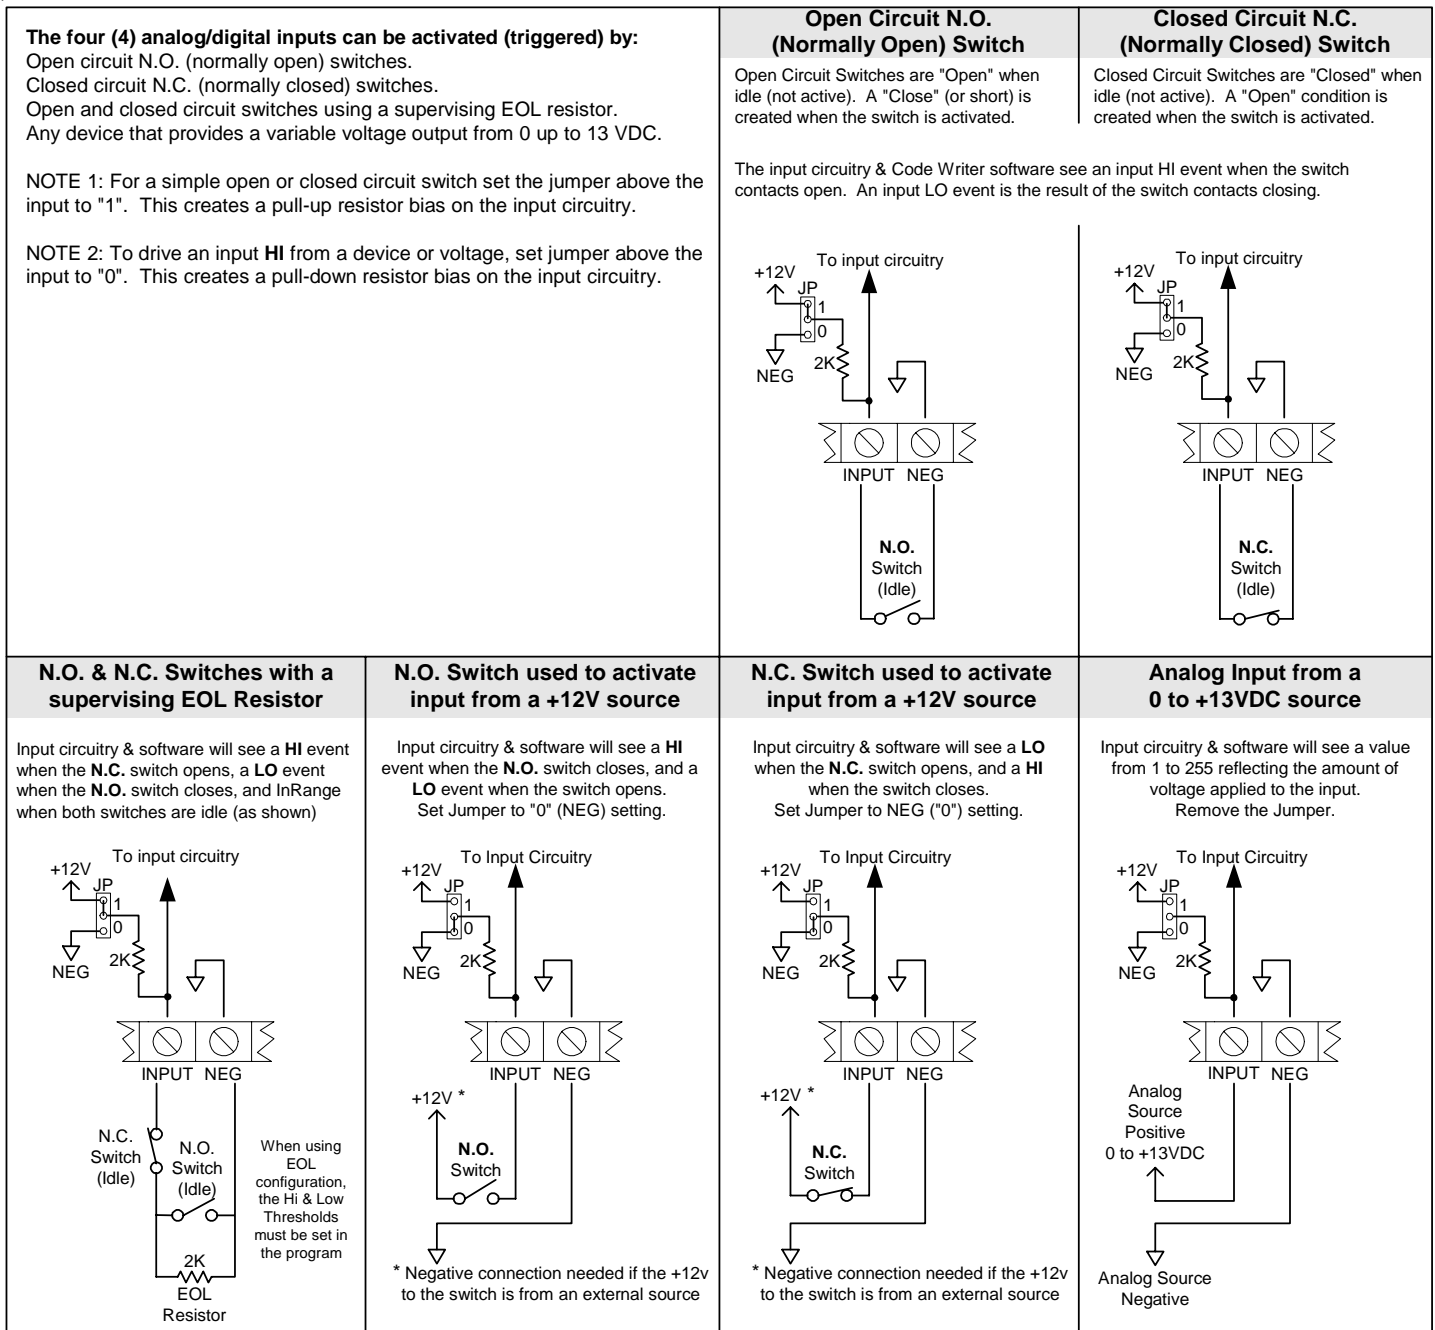

FIGURE 2. Configuration and Connections of Inputs
3. Connect the Inputs as needed. Four analog or digital inputs with programmable low and high level switching thresholds accepting input voltages directly up to 13.6 volts DC are available at terminals 5 thru 10. Higher voltages can be used by using resistors on the input as a voltage divider. Each input is jumper programmable for a 2K ohm input resistor pulled to 12VDC, ground, or no resistor input voltage bias. The input loop response time may be adjusted with the **set INxFilter** command in 1/10-second increments from 100 milliseconds to 25.5 seconds. See Figure 2 for input configurations.